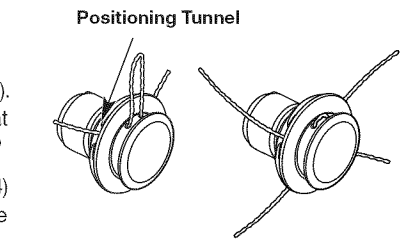

Fig. 24
- Push and/or pull the line so that the line is snug against the hub and is fully extended through the positioning tunnels. (Fig. 24)